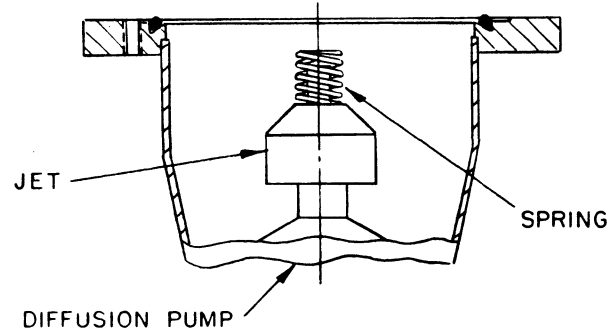

Figure 6-22. Position of Jet Top When Jet is Firmly Seated
1. Install jet in diffusion pump body so that two of the five guide protrusions straddle the foreline opening. Be sure that the jet is firmly seated (top approximately 1/2 inch below pump flange) (Figure 6-22).